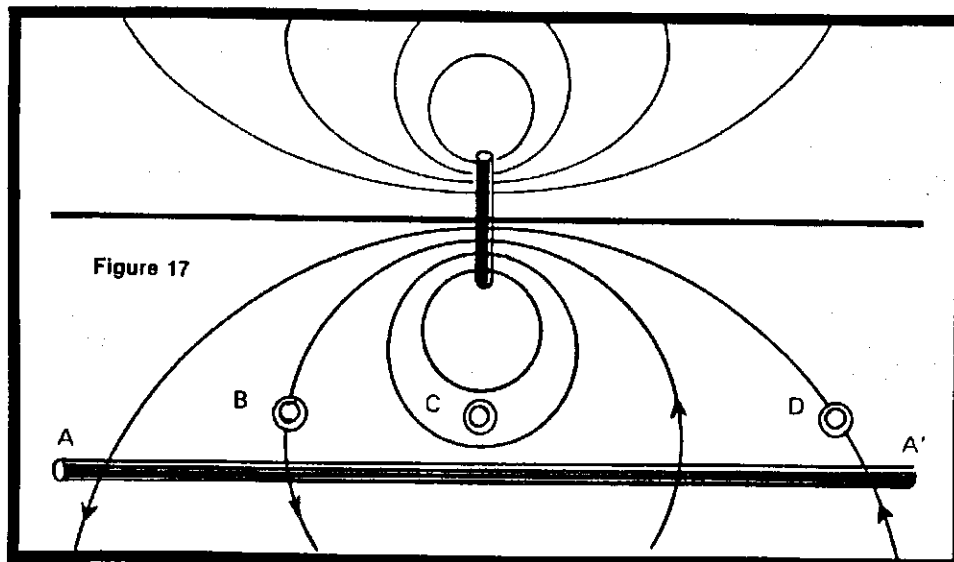

Figure 17
The theory also implies that the amount of inductive coupling between the transmitter loop and a metal object will depend upon several other factors: (1) the distance of the object from the transmitter loop, (2) the size and shape of the object, and (3) the direction of the major axis of the object with respect to the induction field. This latter applies particularly to the case of metal pipes or cables as shown in Figure 17.
The foregoing theory also applies for line tracing, in which the transmitter and receiver may be separated a considerable distance. In this case the receiver loop is oriented to the relatively weak field generated by currents in the pipe. In order to induce maximum current in the pipe, the transmitter loop should be placed directly over the pipe and parallel to it. This would correspond to position C in Figure 17. (The receiver may be oriented either for a null, or for a maximum signal, depending upon the particular use.)